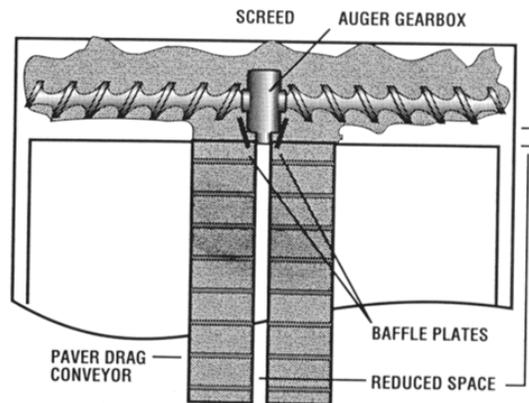

Figure 41. Gearbox Baffle Plates.
- g. If material level in augers is allowed to run low, the center of the mat will be deficient of material and this will generally result in a coarse strip. Baffle plates, as shown in Figure 41, may prevent coarse materials from rolling in front of the auger gear box and causing centerline segregation. With the